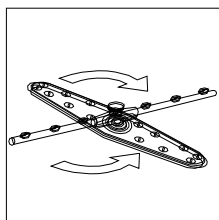

Fig. 14
- From time to time clean washing and rinsing arms and nozzles, as shown from Fig.14 to Fig. 18.